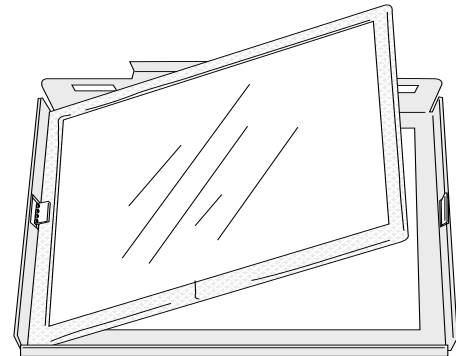

Figure 31. Use small pliers to pry up the two retainer tabs.
4. The glass panel is held in place by two steel tabs. Use a screwdriver or small pliers to pry these up off the edge of the glass retaining walls. See fig. 31.